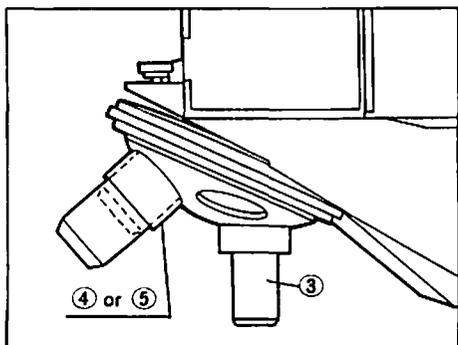

Fig. 41
2. If one or more Nomarski prism attachments ③ are mounted on the motorized revolving nosepiece (BH3-ENRE-M) and you want to obtain the same focal distance when the objective adapter is in use, first mount the objective adapter (NRE-MSP2) ④ and then mount the brightfield objective. (Fig. 41)
3. If the brightfield/darkfield objective is to be used under the same conditions, first mount the objective adapter (NRE-NESP2) ⑤ and then mount the brightfield/darkfield objective. (Fig. 41)